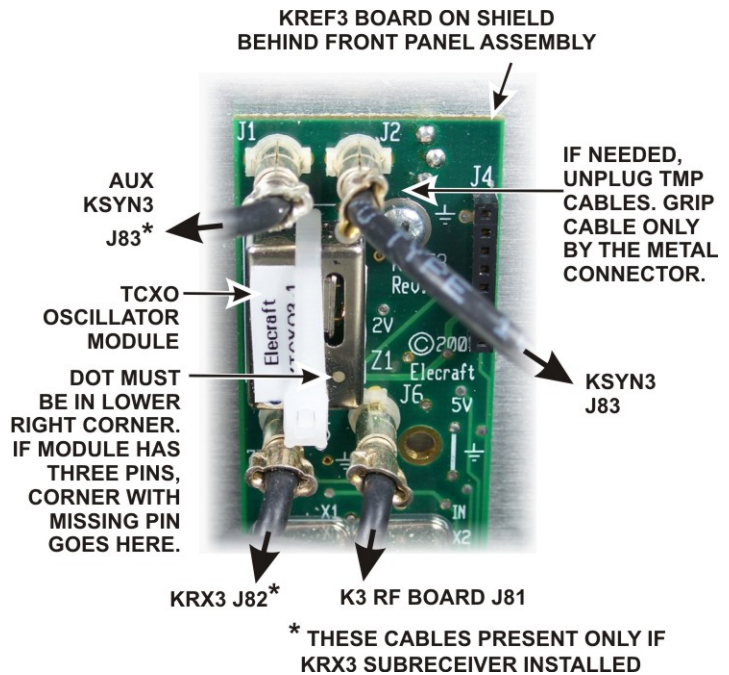

Figure 2. TCXO Module Installed on KREF3 PC Board.
- Locate the KREF3 circuit board. It is mounted against the metal shield running across the width of the K3 near the front panel (see Figure 2).
Install the 1 ppm TCXO oscillator module with one pin in each corner connector on the socket and the dot in the lower right as shown in Figure 2. If the new module has only three pins, the corner with the missing pin is the one with the colored dot and goes in the lower right. The insulator installed in the previous step should be between the oscillator module and the socket on the KREF3 board.
If you removed the black TMP cables to install the oscillator module, replace them as shown in Figure 2